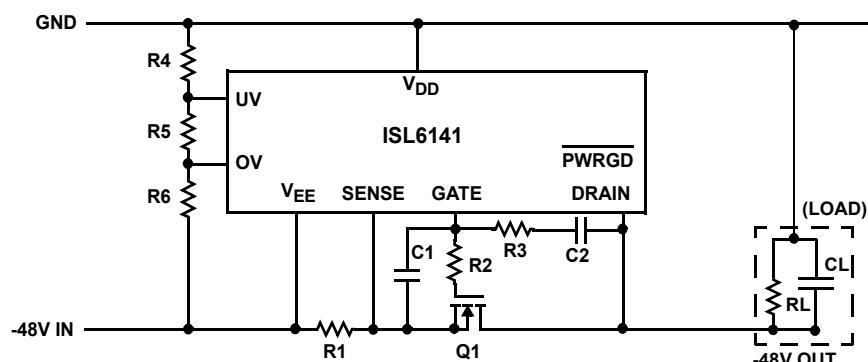

FIGURE 23. TYPICAL APPLICATION WITH MINIMUM COMPONENTS
(See fig 23 for reference)
The values of R4 = 549K, R5 = 6.49K, and R6 = 10K shown in figure 23 set the Under-Voltage turn-on threshold to 43V, and the Over-Voltage turn off threshold to 71V. The Under-Voltage (UV) comparator has a hysteresis of 135mV (4.6V of hysteresis on the supply) which correlates to a 38.4V turn off voltage. The Over-Voltage comparator has a 25mV hysteresis which translates to a turn on voltage (supply decreasing) of approximately 69.6V.